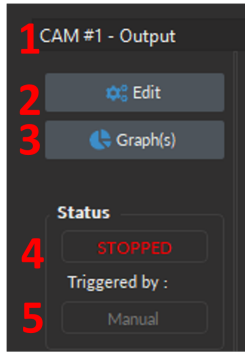
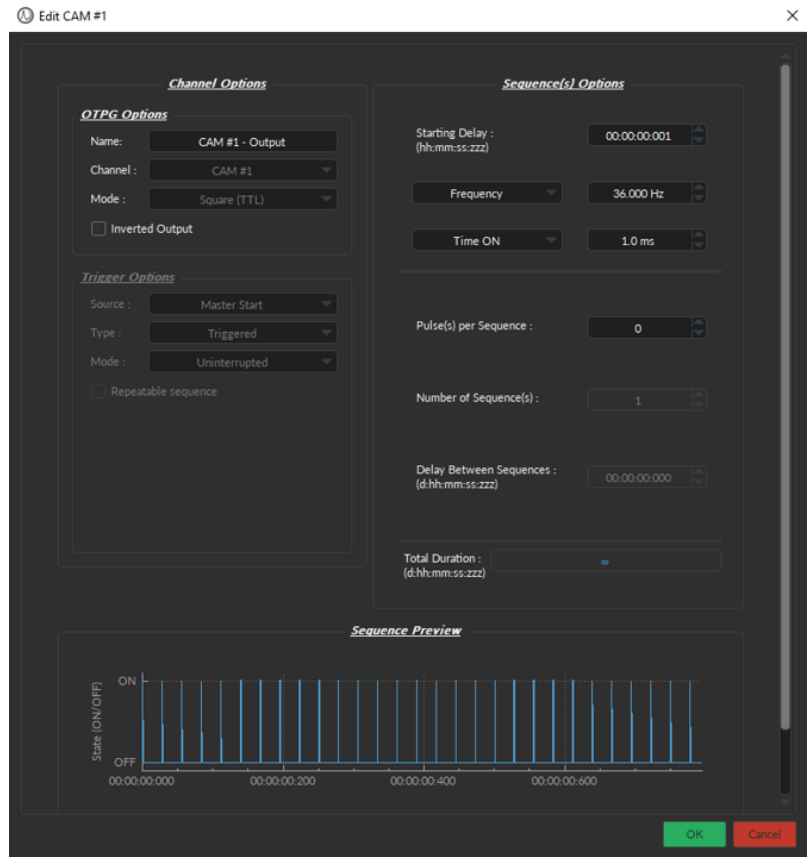
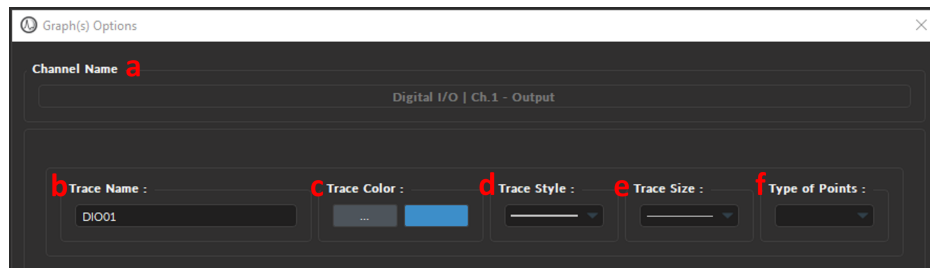
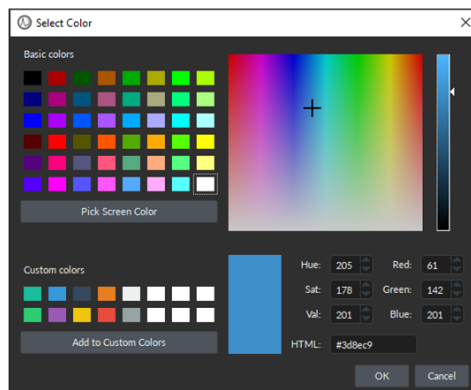

Figure 9.34: Digital I/O View, Control box
Figure 9.35: Edit Preset CAM or EXC configuration
Figure 9.36: Graph(s) Options Window
Figure 9.37: Select Color Window
The following elements are contained within the **Control Box** of every Digital channel (Fig. 9.34):
1. The **Channel name** (Fig. 9.34, 1) is located on the upper left of the **Control box**, identifying the type of channel and its number, corresponding to that on the *BFPD*.
2. The **Edit** button (Fig. 9.34, 2) opens the **Channel Configuration** window, where the preset digital outputs can be modified (Fig. 9.35). For details on individual parameters, see Section 9.4.4.
- The **Graph(s)** (Fig. 9.34, 3) button opens the **Graph Options** window (Fig. 9.36) corresponding to the channel whose graph will be modified. This window allows users to configure the visualization and naming parameters of each channel graph. If a channel has multiple traces, parameters to configure each trace individually will appear automatically on different rows. **Graph(s) Options** parameters are as follows:
- The **Channel Name** (Fig. 9.36, 1) is the default name assigned by the software, which includes the type of channel (Digital / Analog In or Out) and the location of said channel on the console (BNC connector 1-4).
- The **Trace Name** text-box (Fig. 9.36, 2) allows users to specify a name for the trace, instead of the default name generated by the software.
- The **Trace Color** button (...) (Fig. 9.36, 3) opens the **Color Select** window (Fig. 9.37), which allows the selection of a trace color from a wide palette. The **Pick screen color** in this window allows the selection of any color displayed on the computer screen.
- The **Trace style** drop-down list (Fig. 9.36, 4) allows the selection of the type of trace, from full to dashed lines. If the style chosen is empty, the trace will not be displayed.
- The **Trace size** drop-down list (Fig. 9.36, 5) allows the selection of the trace size. Using a bigger **Trace size** than the default may result in slower display and performance degradation.
- The **Type of points** drop-down list (Fig. 9.36, 6) selects the style data point used to demark instantaneous values on the graph. Using different point types than the default (none) may result in slower display and performance degradation.
- The **Status** bar (Fig. 9.34, 4) displays acquisition status. **STOPPED** is displayed when the acquisition is inactive, **STARTED** when acquisition is active, and **WAITING...** when the **Master Trigger** is set to *Triggered* (see Section 9.3.2.1, no. 3).
- The **Triggered by:** (Fig. 9.34, 5) text-box displays the source of the trigger for that channel, which can either be Manual (i.e. selecting the **Record/Live** button) or a specific channel that provides external trigger signal.